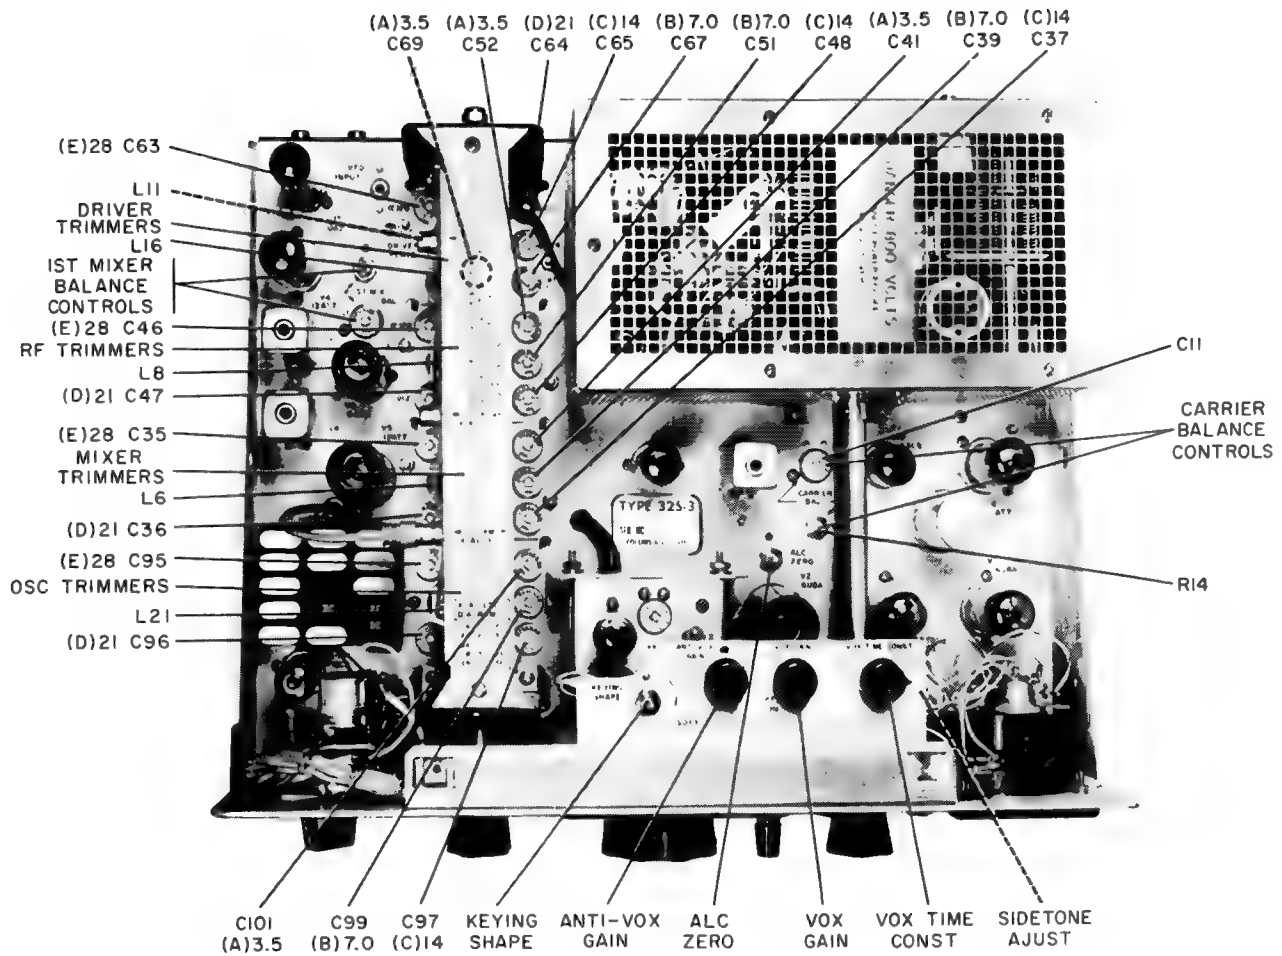

Figure 4-1. Location of Adjustments
Table 4-1 lists significant test points and normal signal levels. Figure 4-1 shows location of adjustments. Before making measurements, set EMISSION switch to USB, and disable the power amplifier by disconnecting screen and plate voltages from both tubes. Set the METER switch to P.A. GRID. Peak EXCITER TUNING, and turn VOX GAIN control counterclockwise until switch clicks. Connect signal generator output to test points indicated in table 4-1, and adjust signal generator output attenuator until PA grid current just begins to show on meter. Attenuator reading is signal voltage necessary at that point. Voltages given in the table are nominal and may vary plus or minus 20 percent. Be careful each time to set signal generator to frequency shown in table. Oscillator output voltage may be measured with a vacuum-tube voltmeter.
b. After a 5-minute warmup period, set EMISSION switch to TUNE and METER switch to P.A. GRID. Adjust MIC GAIN and EXCITER TUNING to produce midscale indication on meter. Set METER switch to P.A. PLATE, and dip plate current with P.A. TUNING. Reset METER switch to P.A. GRID. Peak the four (E)28 trimmer capacitors (C95, C35, C46 and C63) for maximum grid current. See figure 4-1 for trimmer locations.
c. Set BAND switch to 21.2 and tuning dial to 100. Adjust MIC GAIN and EXCITER TUNING for midscale grid current. Set METER switch to P.A. PLATE, and dip plate current. Reset METER switch to P.A. GRID. Peak the four (D)21 trimmer capacitors (C96, C36, C47, and C64) for maximum grid current.
d. Set BAND switch to 14.0 and tuning dial to 150. Adjust MIC GAIN and EXCITER TUNING for midscale grid current. Set METER switch to P.A. PLATE, and dip plate current. Reset METER switch to P.A. GRID. Peak the four (C)14 trimmer capacitors (C97, C37, C48, and C65) for maximum grid current.
e. Set BAND switch to 7.0 and tuning dial to 150. Adjust MIC GAIN and EXCITER TUNING for midscale grid current. Set METER switch to P.A. PLATE, and dip plate current. Reset METER switch to P.A. GRID. Peak the four (B)7.0 trimmer capacitors C99, C39, C51, and C67 for maximum grid current.
f. Set BAND switch to 3.6 and tuning dial to 100. Adjust MIC GAIN and EXCITER TUNING for midscale grid current. Set METER switch to P.A. PLATE, and dip plate current. Reset METER switch to P.A. GRID. Peak the four (A)3.5 trimmer capacitors C101, C41, C52, and C69 for maximum grid current.